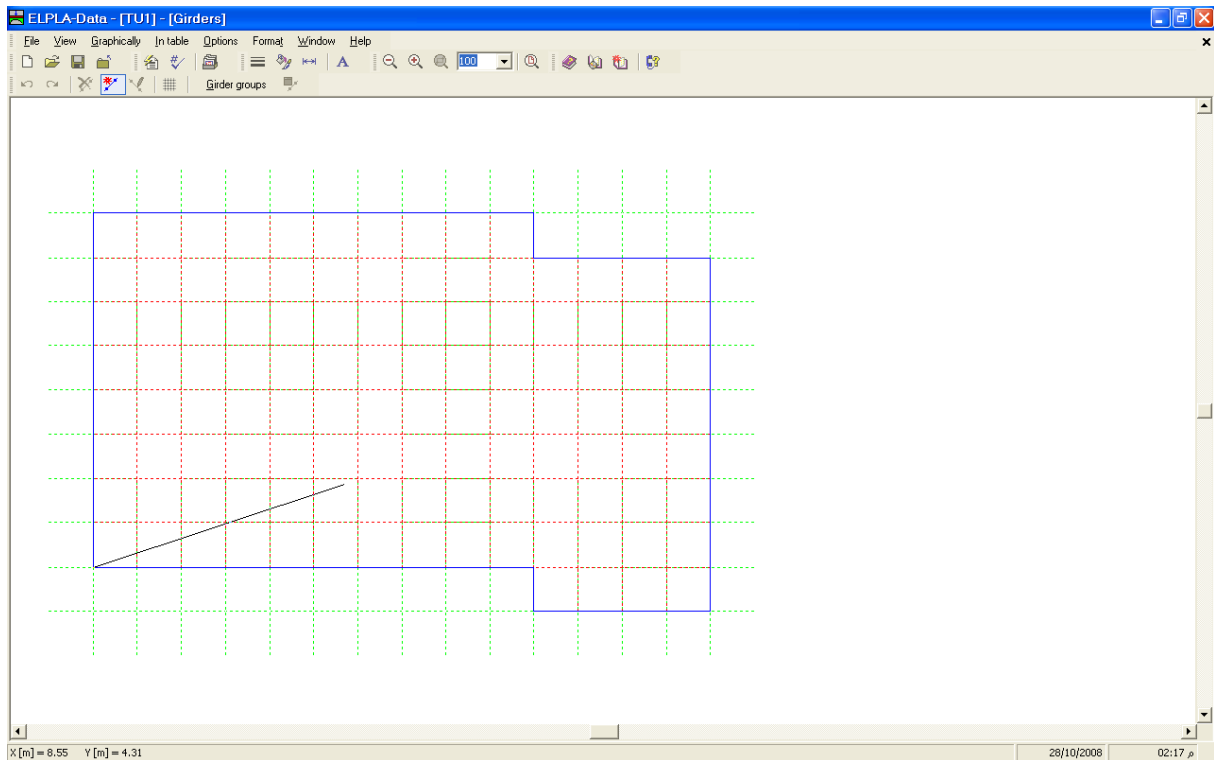
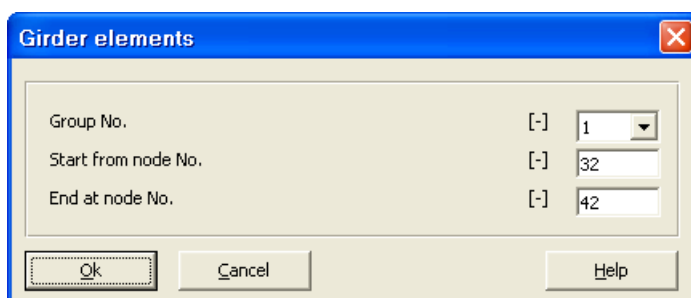

Figure 13-18 Add girder by mouse
Figure 13-19 "Girder elements" dialog box
- Click the left mouse button on the start node of the first girder and drag the mouse until the end node of that girder (Figure 13-18). Then, click on the end node. The "Girder elements" dialog box in Figure 13-19 appears